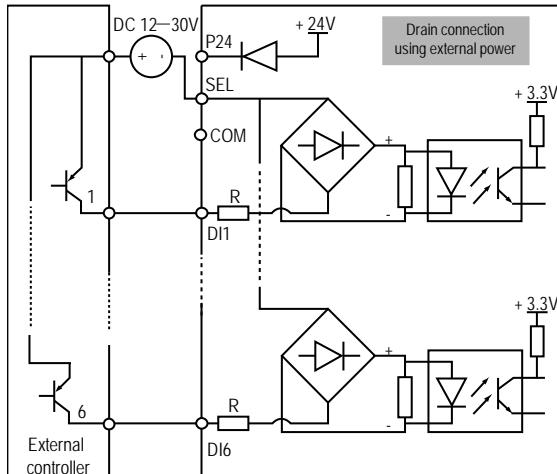

Figure 4-10 Drain input connection when using external power supply
2. If the external power supply is used, the drain connection is as shown in Figure 4-10. (Note that the SEL and the P24 are not short-circuited)